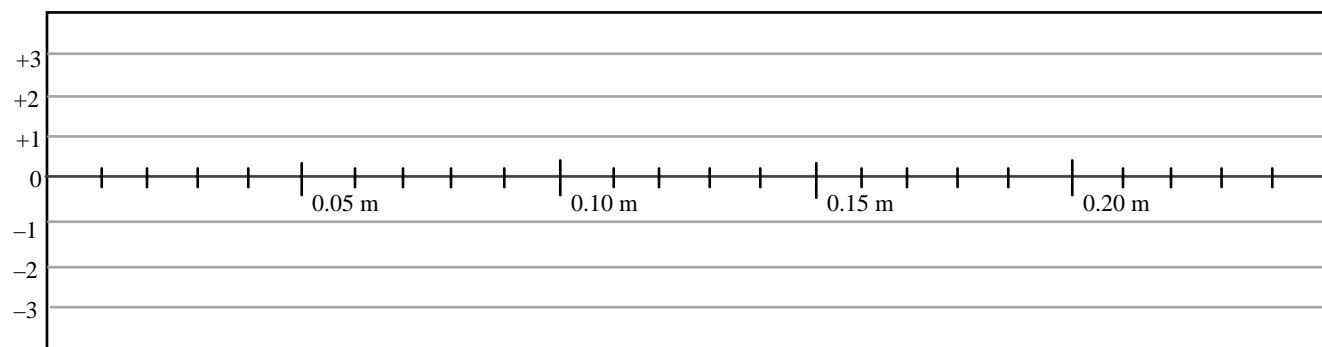

Figure 3. The pattern of pressure deviation maxima in the resonant air column
- For each microphone position you found in Table 3, place a pair of dots corresponding the amplitude in Figure 3. (For the amplitude (0,0), you may just place one dot.) For each pair of dots, draw a vertical line connecting them.
- Using a different colored pencil, draw a smooth curve through all the dots above the centerline in Figure 3 and a similar smooth curve through all the dots below the centerline.
Q4 What similarities do you notice between the figure you just drew and the standing waves on the string (as shown in Figure 3)? What differences do you notice?